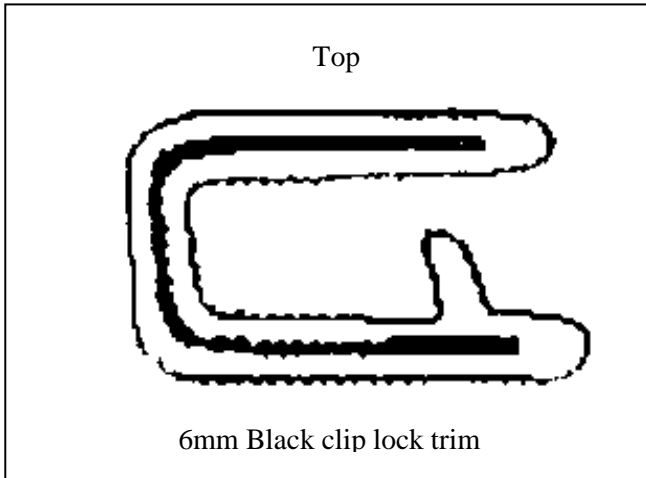

Figure 9
22. Attach 6mm clip lock trim (supplied) to top and winch opening of ECB protection bar. **NOTE:** Trim off lower edge on an angle so trim will sit flush with end of protection bar. **See figures 9, 10 and 11.**